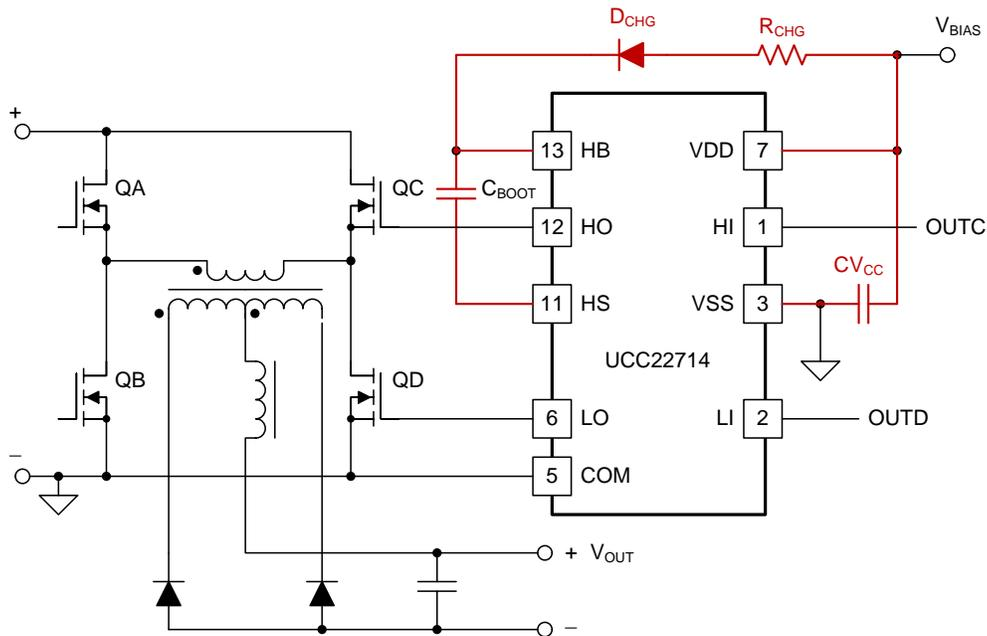

Figure 6. Simplified Gate Driver Schematic
If the designer wishes to use a gate drive device, such as the UCC27714, then some additional testing must be done to make sure that the bootstrap capacitor (C_{BOOT} in Figure 6) is fully charged by the short OUTD pulse. If this is not done, then the next OUTC pulse may not be delivered to the gate of QC. If this happens, QC will not be turned on and current will flow through its body diode instead of its channel. At the start of the next T_{ON} interval QD is turned on again. The resulting reverse recovery current in the body diode of QC can appear as a shoot through current and QC and QD may fail short.
- Optimize the layout to minimize parasitic impedances in the charging paths outlined in red in Figure 6.